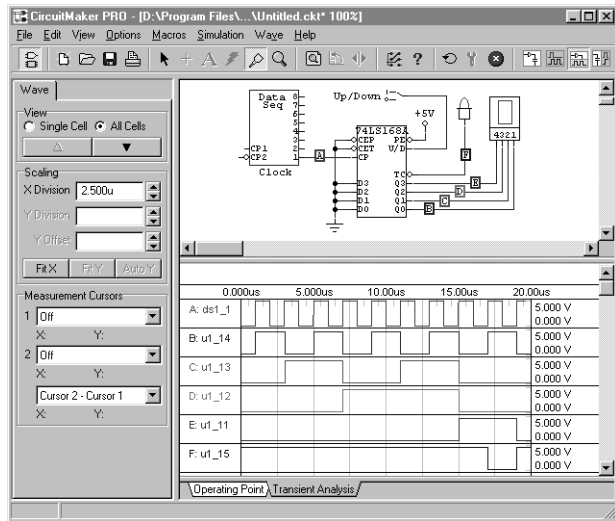

Figure 3.25. BCD Counter Circuit and waveforms.
- 13 Repeat this procedure for each output of the 74LS168A. The resulting graph should appear similar to the one shown in Figure 3.25.